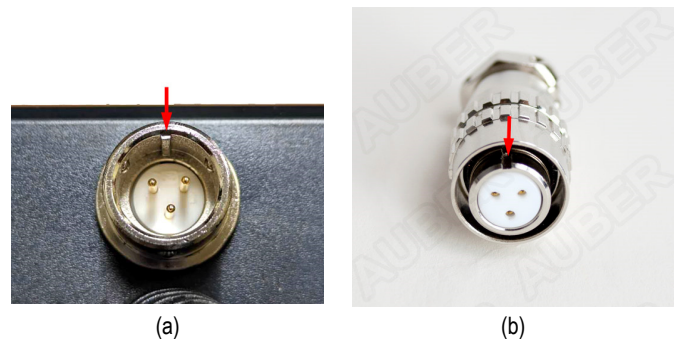

Figure 8. (a) Key on the male connector (controller side). (b) Notch on the female connector (sensor cable side).
- Identify the key on the male connector (see Figure 8(a)) and the notch on the female connector (see Figure 8(b)).